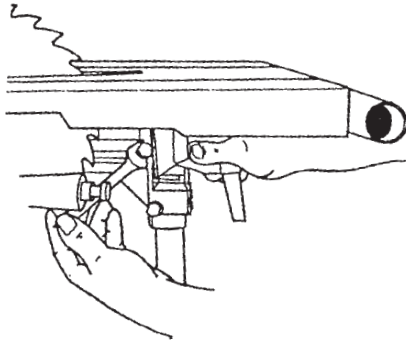

Figure C-32
26. To adjust the 0° stop, simultaneously depress the table stop pin and use a 1/2" wrench to adjust the stop bolt. The stop bolt should just contact the side of the stop pin. Once the stop bolt is adjusted, the stop pin will "lock" back when the tilt lock is tightened, as shown in Figure C-32.